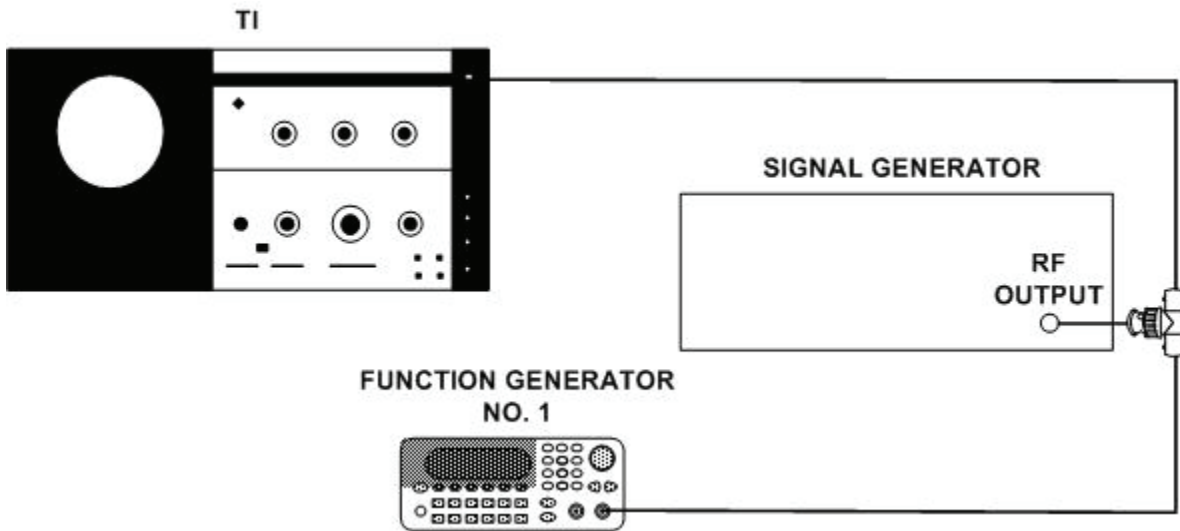

Figure 13. Spurious response - equipment setup.
- (1) Position TI controls as listed in (a) through (d) below:
- (2) Position IF plug-in controls as listed in (a) through (c) below:
- (3) Connect equipment as shown in figure 13.